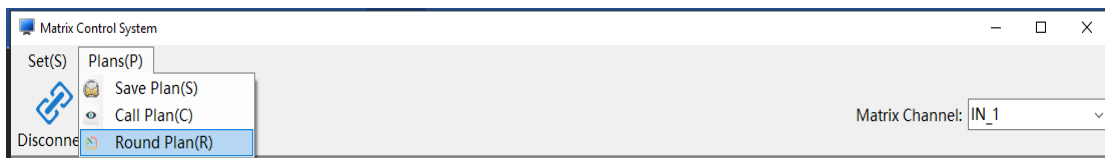

Figure 13 Enter the round plan interface
3、round plan : Enter the "round plan" interface as shown in Figure 13. Click the "plan" in the menu bar of the main interface of the software, click " round plan" in the drop-down menu that appears, and the "round plan" window will pop up, as shown in Figure 13. The interface of the " round plan" is shown in Figure 15.